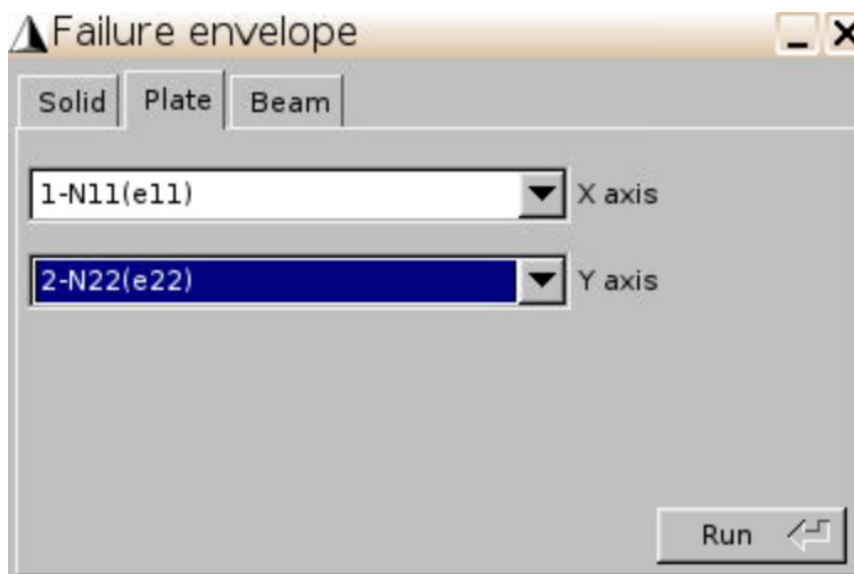

Fig. 6
- Click SwiftComp->Static failure->Failure envelope. Select “stress-based” and click add. Choose plate tag and select X axis as N11 and Y axis as N22 as shown in Fig. 6.